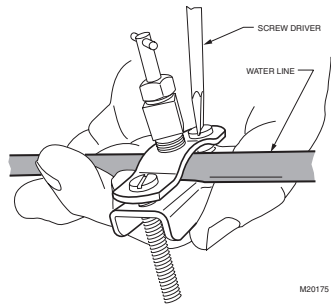

Fig. 8. Installing saddle valve.
2. Use the self-piercing saddle valve (included) to tap into the water supply line at the location selected. See Fig. 8. If tapping into galvanized pipe, drain line and pre-drill 3/16 in. tap for saddle valve.